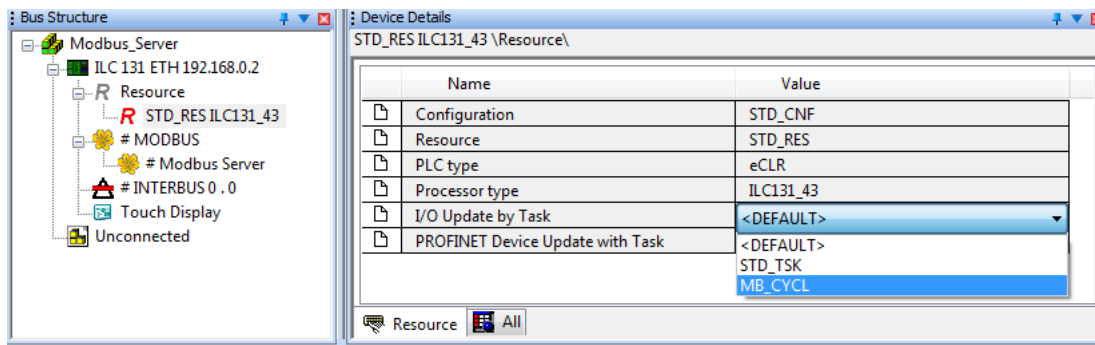

Figure 32 Selecting the cyclic task for “I/O Update by Task”
- In the "Bus Structure" window, select the standard resource and in the "Device Details" window select the cyclic task created previously for "I/O Update by Task" (see Figure 32).